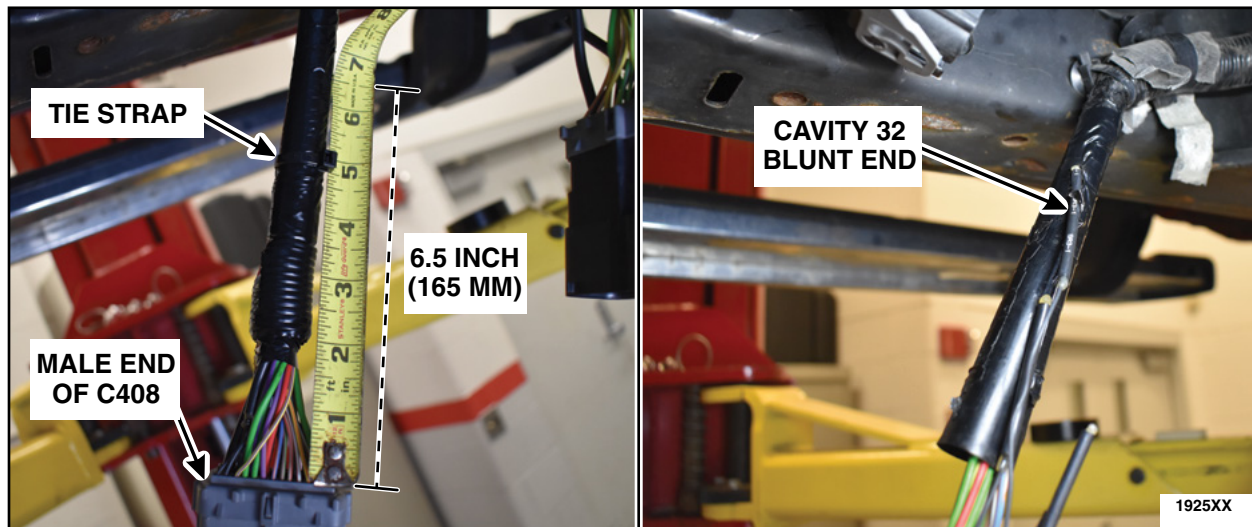

FIGURE 43
45. Measure from the back of the male end C408 6.5 in (165 mm). Remove the tie strap, convolute and tape to expose the cavity 32 blunt end. See Figure 43.